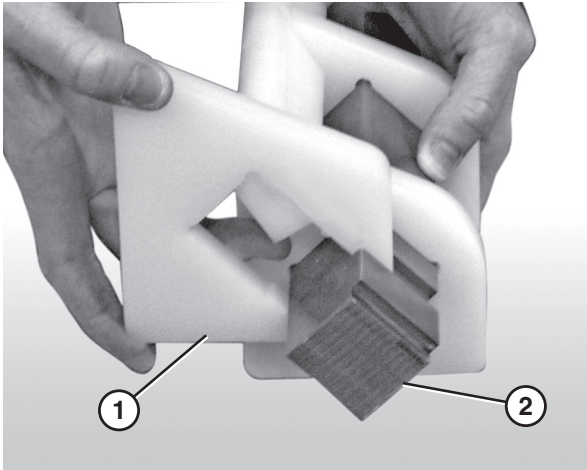

Figure 86
3. Attach the nose bar tracking pucks (Figure 86, item 1) to the nose bar drive post (Figure 86, item 2).